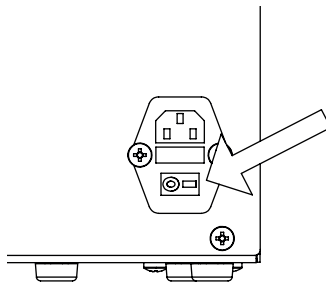

Figure 2
2. Take the Switch on the back of the Machine to "0". **(Figure 2)**